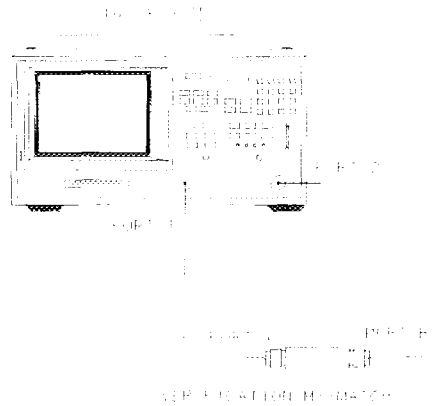

Figure 3-5. Mismatch Device Verification Setup
- 16 Connect the verification mismatch (supplied in the kit) as shown in Figure 3-5. Be sure port A of the verification mismatch is connected to reference test port 1.